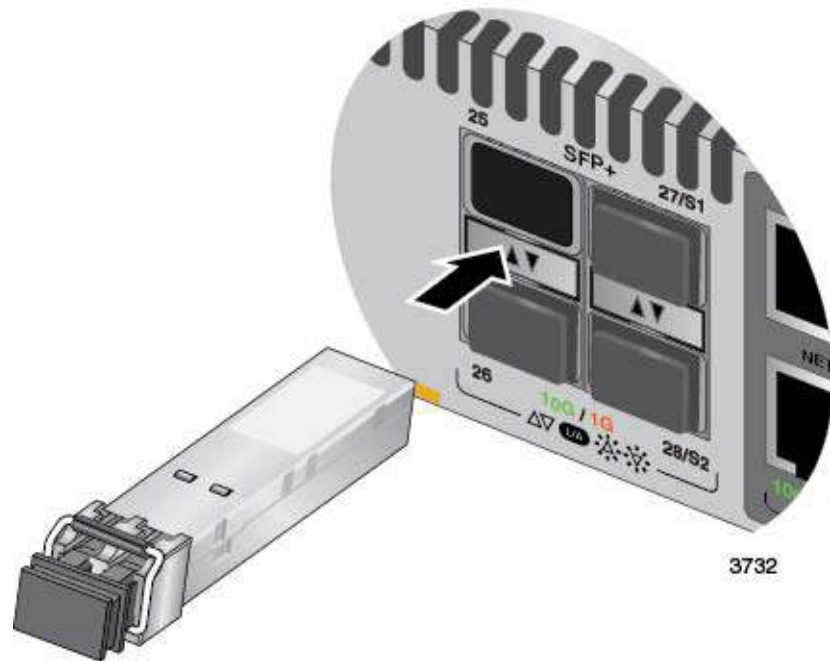

Figure 73. Installing an SFP Transceiver
4. Slide the transceiver into the slot until it clicks into place, as shown in Figure 73 on page 138.